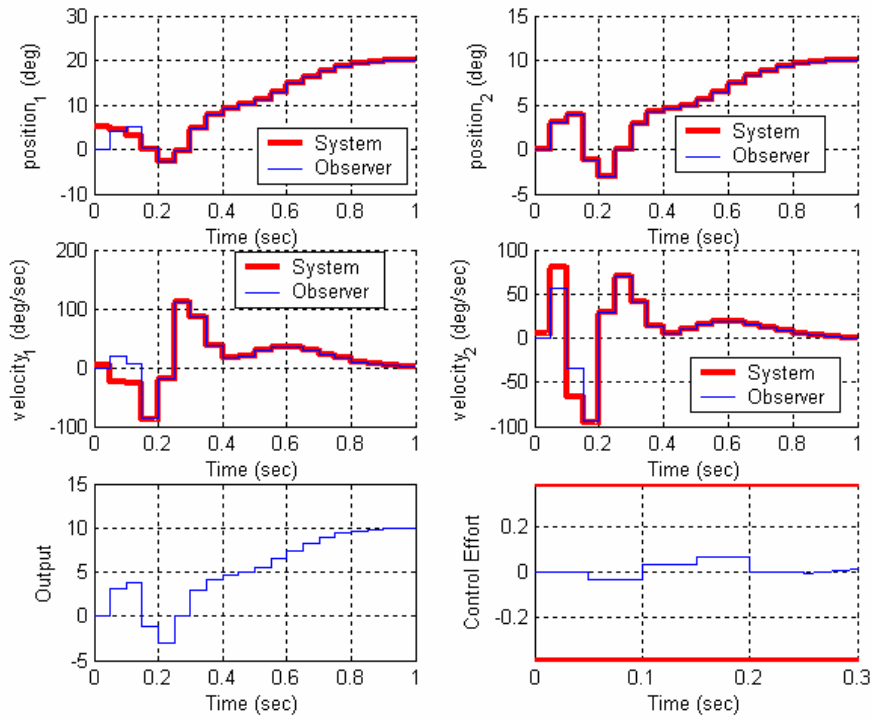

Figure 12. Results for problem 4c.
c) Same conditions as in **b**, but assume the output is the second disk. For a 10 degree step input you should get the graph shown in Figure 12. Turn in your plot.